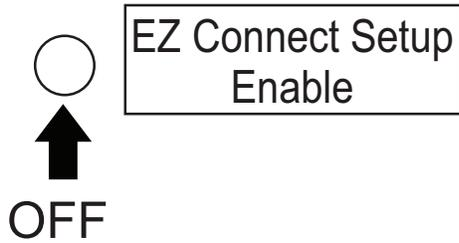

Figure 152. EZ Connect Setup Enabled Status Indicator (OFF)
- Verify that the **EZ Connect Setup Enabled** status indicator (Figure 152) is **OFF**.